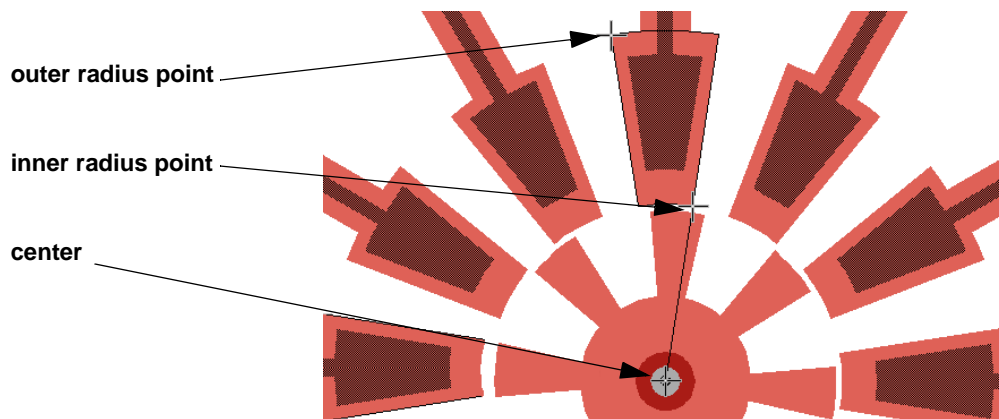

Figure 33: Creating a torus
- ☑ Left-click the center of the incomplete motor to begin drawing the torus. Left-click at the inner radius point, then complete the torus by right-clicking at the outer radius point (Figure 33).